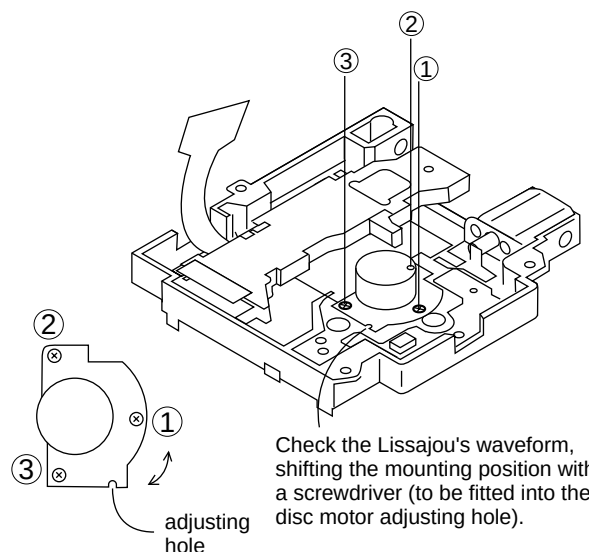

Figure 25-4
2. After adjustment, tighten screws 1, 2, and 3 in numerical order. (See Fig. 25-4.)